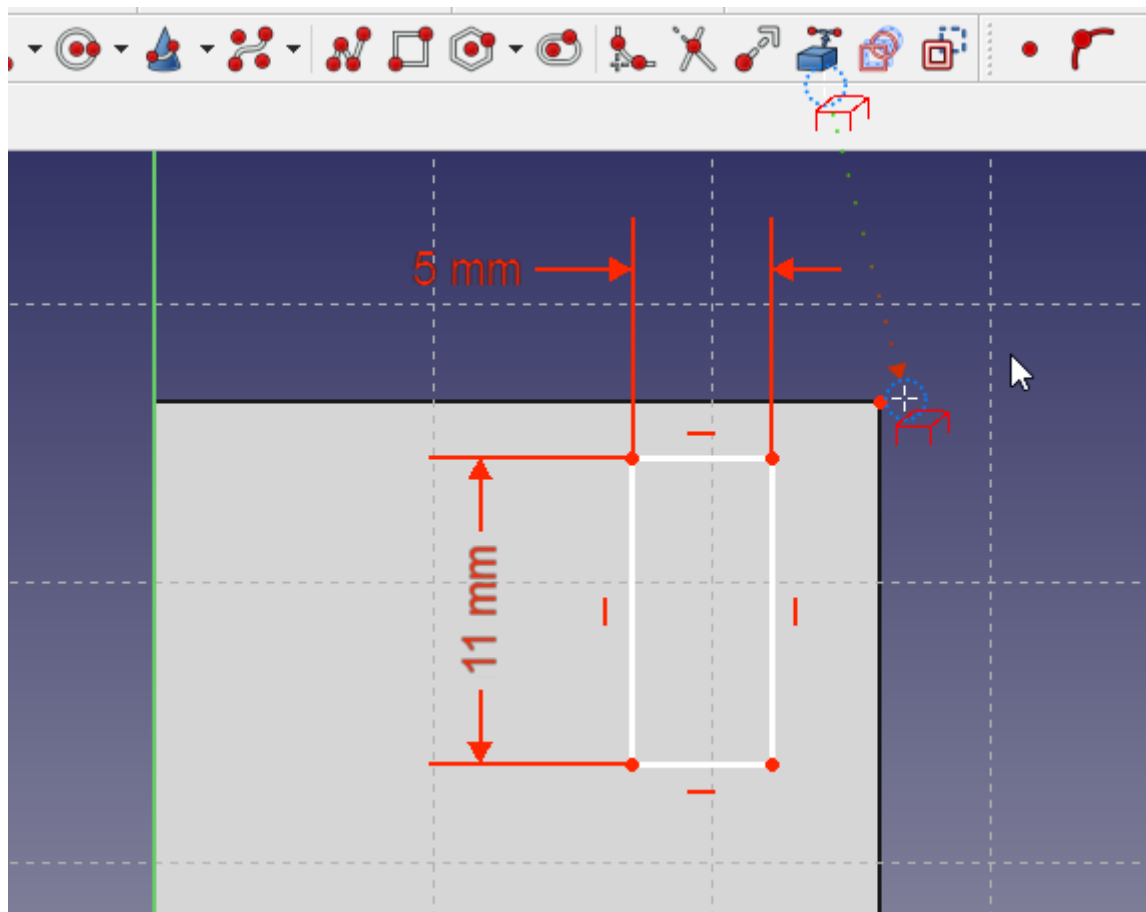

Figure 27 - Application of the tool "External geometry"
4. Select the top right point of the face and click on it to get a point from the external geometry to link our sketch to it (Figure 27).